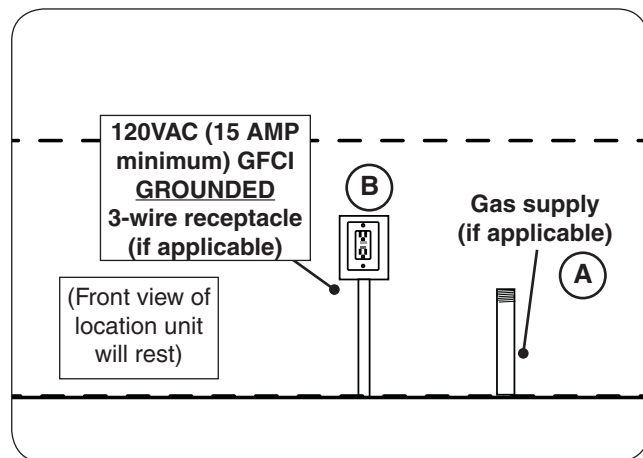

Fig. 18-1 Route gas and electrical (as applicable)
1. Route the gas supply into the area that the unit will rest over (see Fig. 18-1, A).
1. Wire the receptacle into the area that the unit will rest over (see Fig 18-1, B).